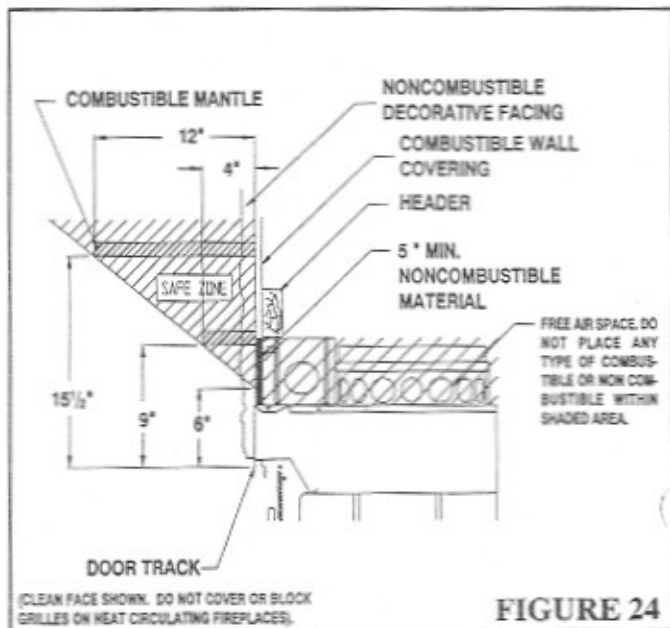

FIGURE 24
**WHEN COMBUSTIBLE COVERING IS USED, IT MUST NOT COME CLOSER THAN 5" TO THE TOP BLACK FRAME. A NON-COMBUSTIBLE MATERIAL MUST BE USED AS SHOWN ON FIGURE 24.**
Combustible mantels may be safely installed provided they do not project beyond the safe zone illustrated in Figure 24.